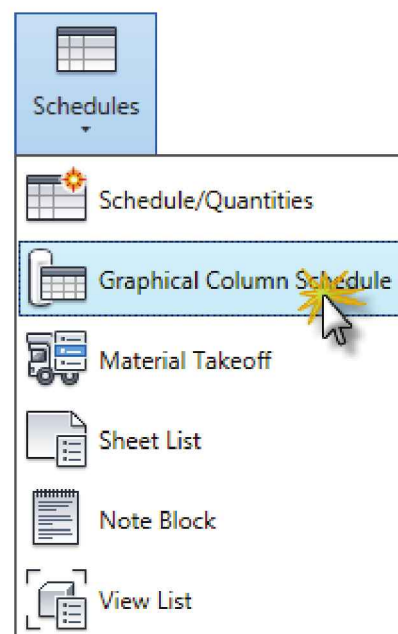

FIGURE 12-4.1
2. Select **View → Create → Schedules → Graphical Column Schedule** from the *Ribbon* (Figure 12-4.1).